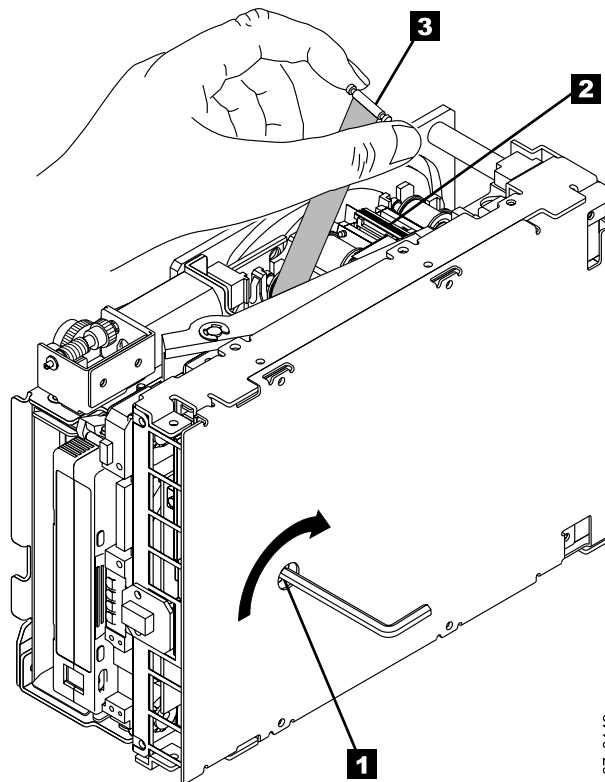

Figure 107. Rewinding the leader pin into the tape cartridge
4. Place the tape drive so that the front faces you, then tilt it on its left side (see Figure 107).
5. At the bottom of the drive, locate the access hole (**1** in Figure 107).
7. With clean needle-nose pliers, grasp the end of the leader pin and pull it out of the cartridge so that you can grip it with your fingers (see **3** in Figure 107).